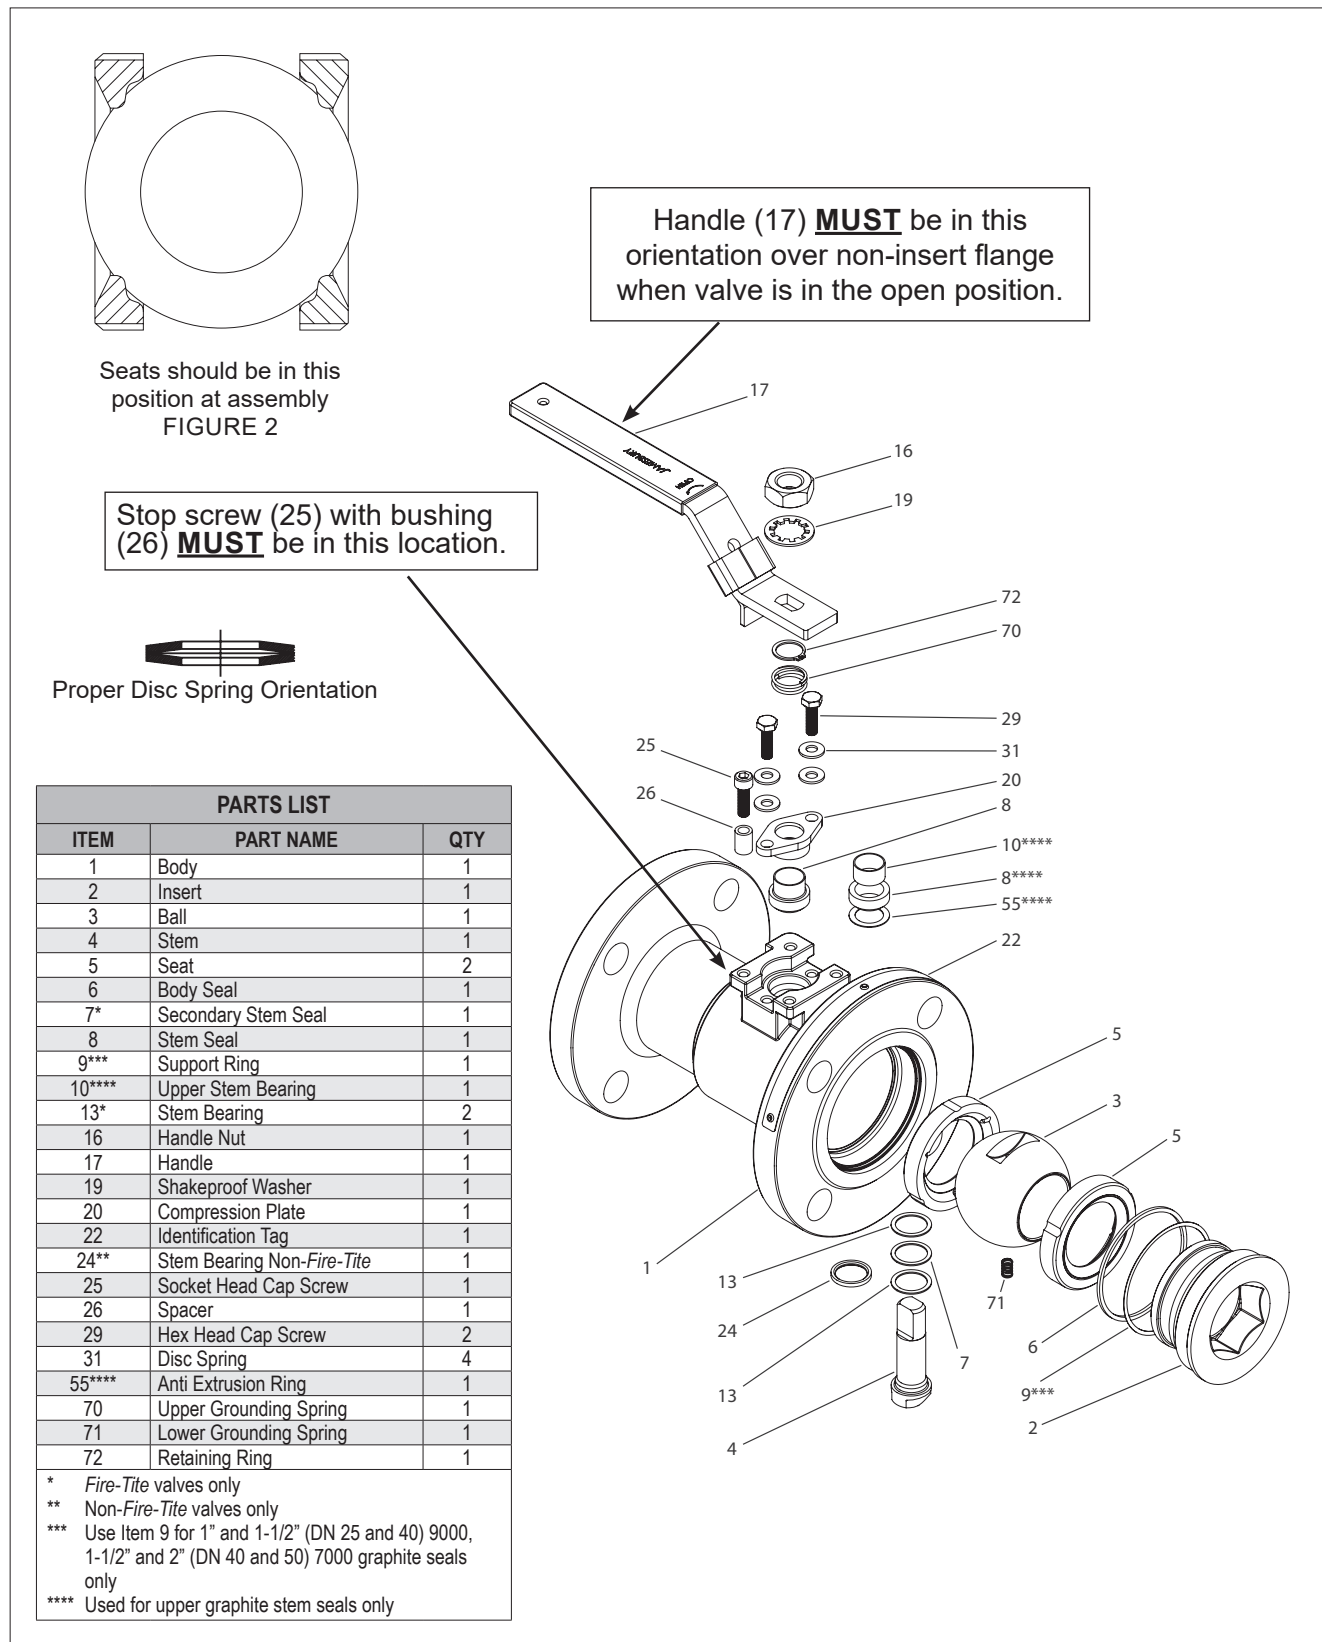

Figure 1.
4. Place the stem bearing (24) on the stem (4).
NOTE: Fire-Tite valves have 2 stem bearings (13) and a secondary stem seal (7) as shown in (Figure 1).
5. Insert the stem (4) with the bearing(s) into the valve body and through the stem bore in the body, as shown in (Figure 1).
6. Holding the stem in place from the inside, install the stem seal (8) and the compression plate (20). For PEEK seats, install upper bearing (10) and anti extrusion ring (55) into the packing bore prior to installing the stem seal (8).
7. Place the disc springs (31) on the hex head cap screws (29). Disc spring orientation is shown in (Figure 1). Install the hex head cap screws through the compression plate and bring them down hand tight.
8. While pressing the stem (4) outward from inside the body, tighten the hex head cap screws to the torque provided in (Table 1). Apply torque evenly, alternating between the two cap screws so that the compression plate will be parallel with the valve body bonnet.
9. Align the stem to the ball slot. Insert the ball (3) so that the internal stem blade fits into the ball slot.
10. Insert the second seat (5) with the flat facing up. Insert the body seal (6). **NOTE:** Some sizes of graphite body seals contain an additional support ring (9). Install support ring (9) prior to inserting body seal (6).
11. Screw the insert (2) into the body (1) and tighten to the Torque listed in (**Table 2**).
12. With ball (3) in the open position, install handle (17) over the non-insert flange, lockwasher (19) and handle nut (16) and tighten to torque listed in (**Table 3**). Handle **MUST** be in this orientation as shown in (**Figure 1**).